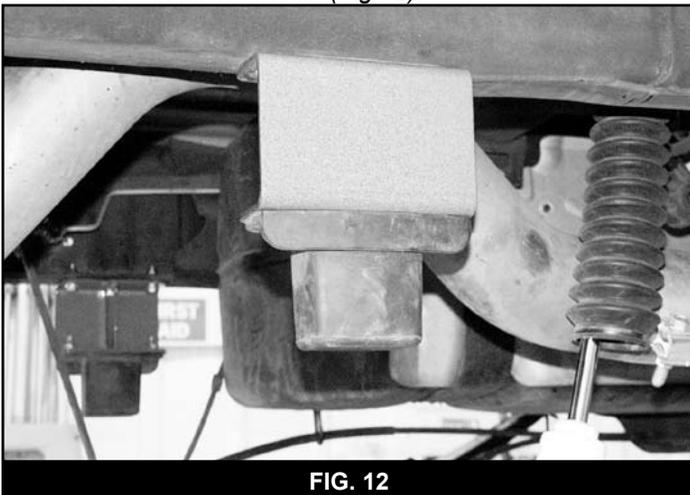

FIG. 12
64. Install the OE bump stop to the relocation brackets with the OE nuts and torque to 30 ft-lbs. **Note:** The bump stops have a locating tab that will fit into the middle hole in the relocation bracket (Fig 12).